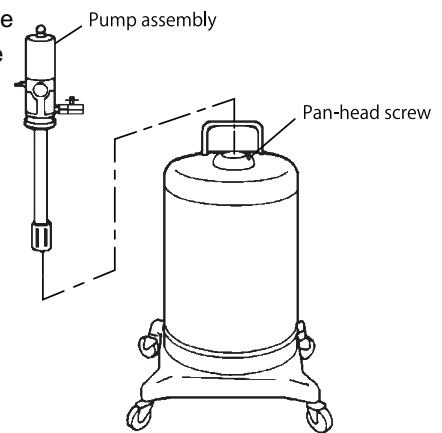

Fig. 8
- 2) Unscrew the pan-head screw of the body supporter that fixes the pump. Pull out the pump from above. (Fig. 8)